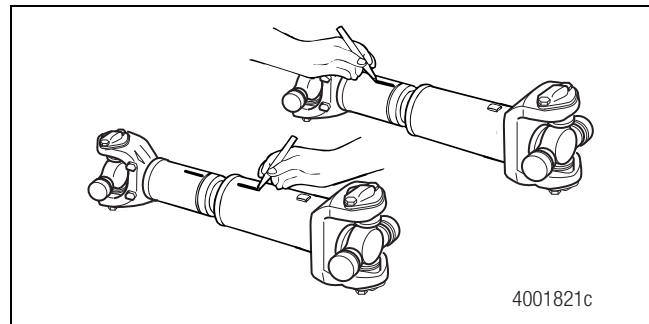

Figure 7.2
2. Mark the slip yoke and slip shaft sections to ensure that you reassemble them into their original positions. Figure 7.2.